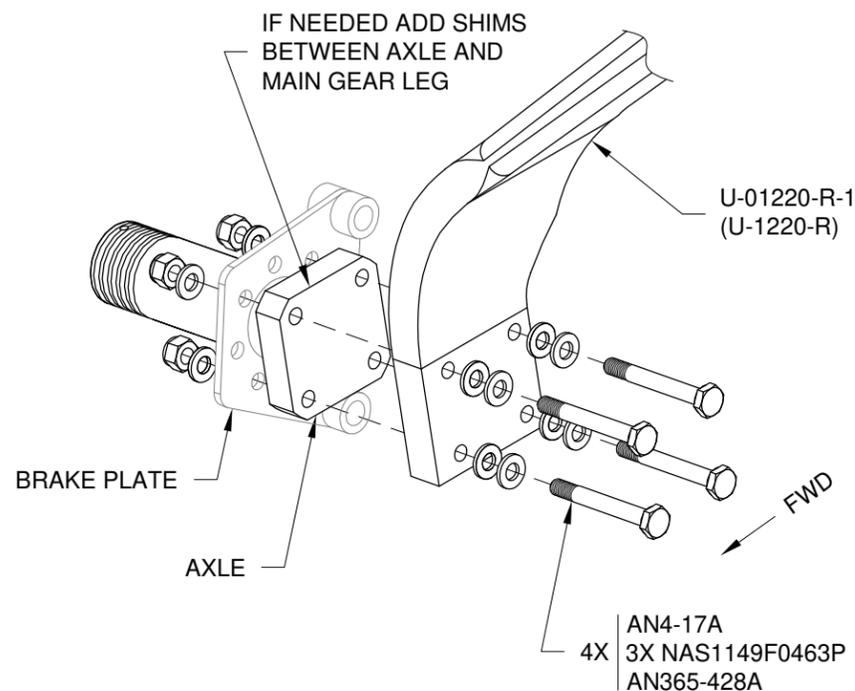

FIGURE 1:
Step 1: Bolt just the main gear axles to the U-01220-L-1 & -R-1 (or U-1220-L & -R) Main Landing Gear Legs with the provided hardware. See Figure 1.